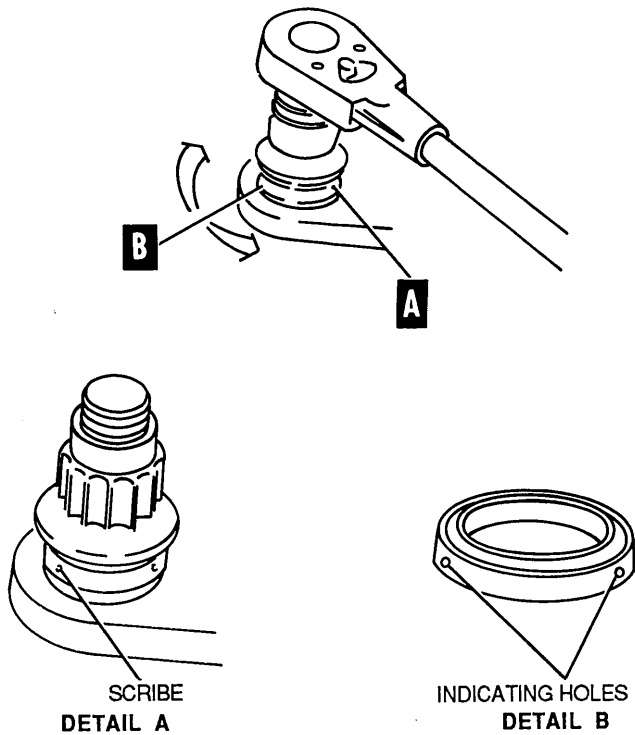

Figure 8-33. Tightening Preload Washers
(3) Tightening. To tighten preload washers on a stud or a bolt, see figure 8-33 and proceed as follows: